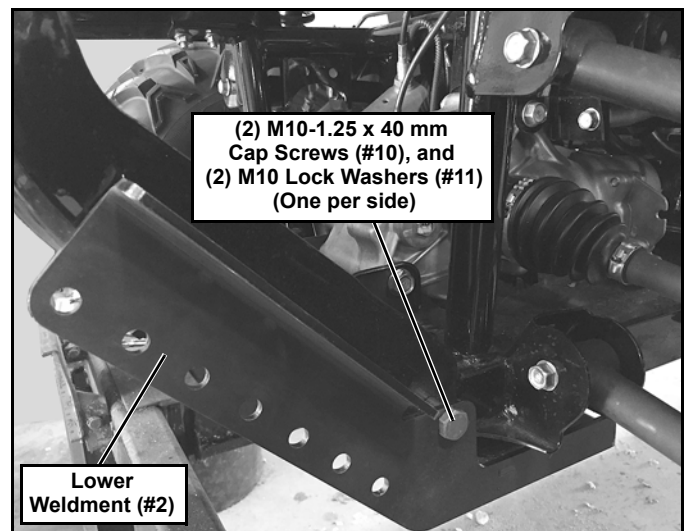

Figure 2
2. Align the rear side holes of the Lower Weldment (#2) with the holes in the brush guard where the hardware was removed in step 1. The bottom holes in the Lower Weldment (#2) will align with holes in the bottom of the frame. (See Figure 2.)
3. Insert (2) M10-1.25 x 40 mm Cap Screws (#10) through (2) M10 Lock Washers (#11), the Lower Weldment (#2), the brush guard, and into the frame. (See Figure 2.)